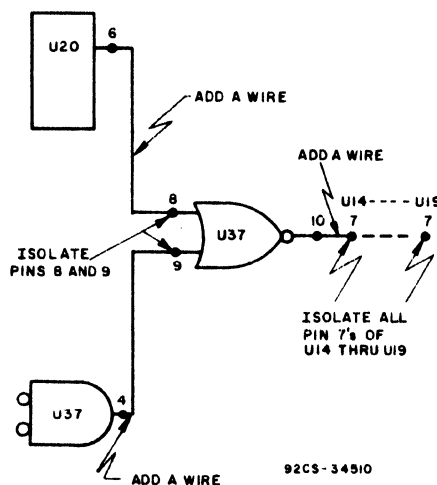

Fig. 1 - Programmed Register and Data Output for CDP18S640 Microboard Control and Display Module.
5. Now add a wire between U37-10 and pin 7 of U14 thru U19. (See Fig. 1), to provide a clock to MC14495P.